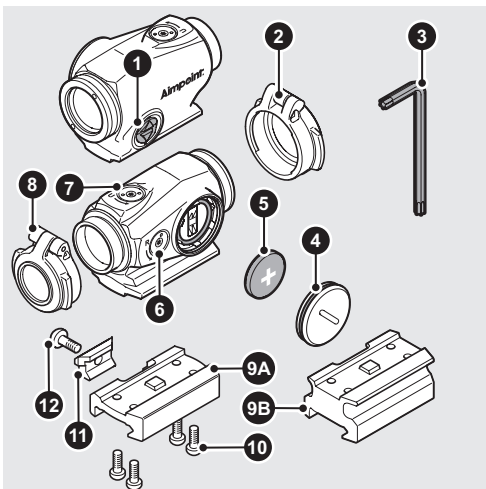

Fig. 1 Overview
- c Insert battery (5) with the positive end (+) toward the battery cap (4) as seen in Fig. 1.
If the sight is equipped with the mount shown in Fig. 1, follow the described procedure. For installation with other mounts, see accompanying instruction.